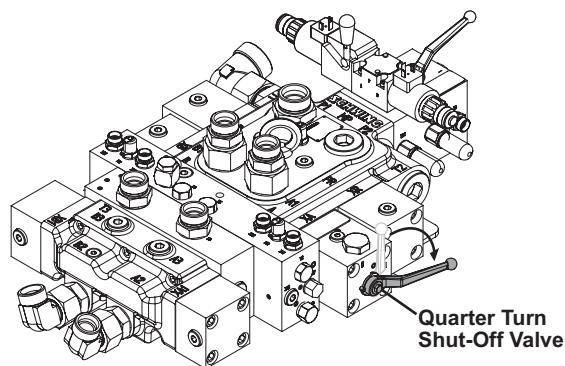

Figure 33
10. Open the shut-off valve (Figure 33). The unit will not stroke with this valve closed.